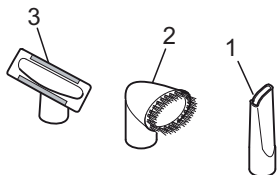

Fig. 5
- **Crevice nozzle (Fig. 5/1)**
- **Furniture brush (Fig. 5/2)**
- **Upholstery nozzle (Fig. 5/3)**